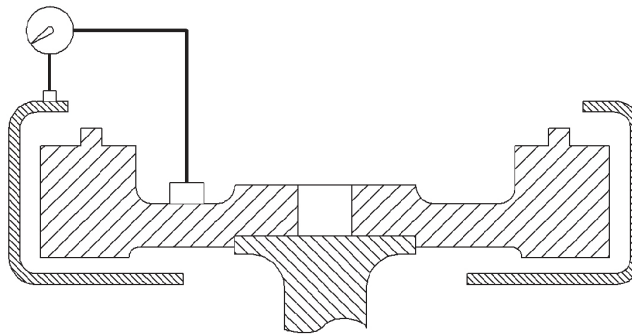

Figure 5. Checking Flywheel Housing Flange for Deviations
1. Bolt a thousandths (.001 in) increment dial indicator or gauge to the engine flywheel so that the indicator is perpendicular to the face of the engine flywheel housing, and the indicator stem is riding on the face of the flange. See Figure 5.